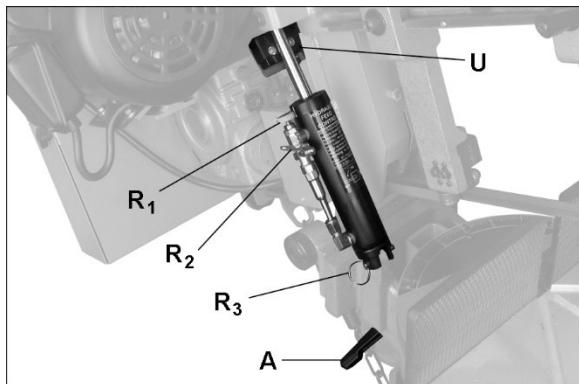

Figure 7-11: feed rate adjustment
To increase feed rate, turn dial (R_1 , Figure 7-11) counterclockwise. To decrease, turn clockwise.
3. Pull linch pin (R_3 , Figure 7-11) out of cylinder, and raise bow to vertical position. Make sure swivel locking handle (A, Figure 7-11) does not obstruct bow positioning.
- If saw completes cut but blade continues moving, adjust limit switch bracket (U, Figure 7-11) downward.
- If blade stops before cut is complete, adjust limit switch bracket (U, Figure 7-11) upward.